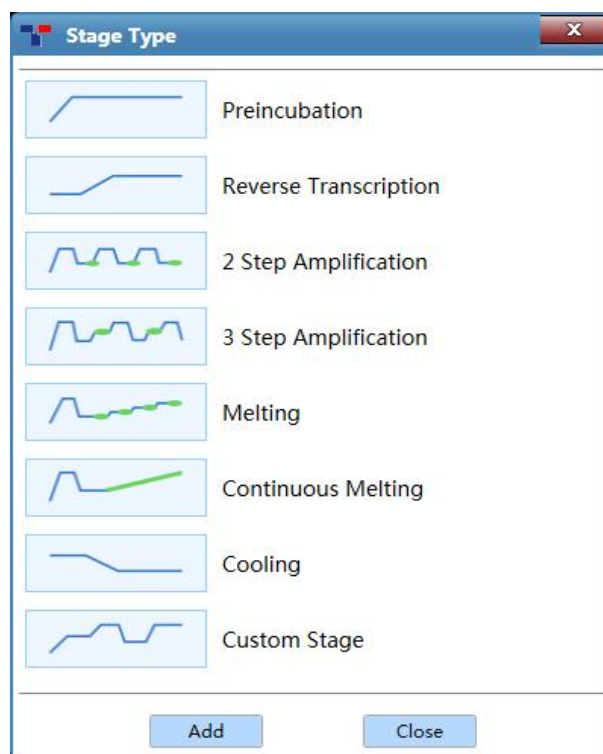

Figure D-5.4. Stage Type Window
► If user add a new stage, the application software will automatically pop up a stage type window, as shown in figure D-5.4.